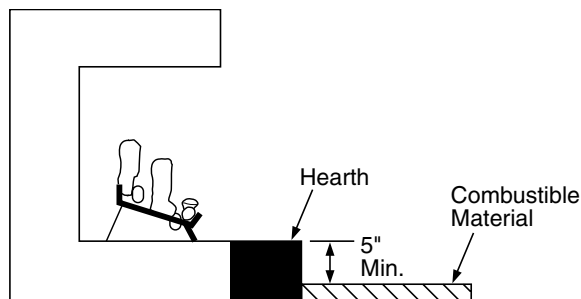

Figure 9 - Minimum Fireplace Clearances Above Combustible Flooring
B. If combustible materials are less than 14" to the fireplace, you must install appliance at least 5" above the combustible flooring (see Figure 9).